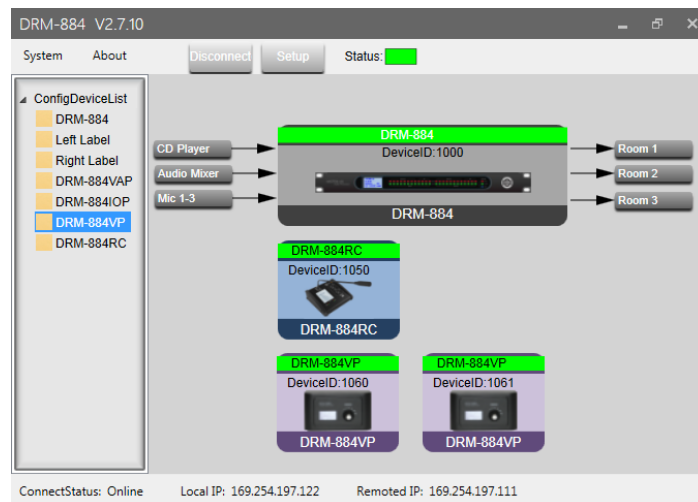

Fig. 14 System Configuration (Daisy Chain Network Mode)
In the "Daisy Chain Network Mode", the constellation of the devices used can be shown. To do this, drag the names of the devices used from the "Config Device List" and drop them in the area on the right (fig. 14). The device is shown as a block which can be placed as desired by means of the mouse. The block contains the device name, the device ID, the type name of the device and a picture. The device name is identical to the type name at first, but it can be changed individually.
- 4) In the window with the device constellation displayed (fig. 14), click "Connect".
After starting the program in the “Star Network Mode” or after double-clicking the block of DRM-884 in the view of the device constellation in the “Daisy Chain Mode” (fig. 14), the settings of a DRM-884 connected will be loaded to the computer and shown in the view “Input DSP Channel”. To change the view, click the buttons at the top. A change of settings on the screen will directly affect signal processing of DRM-884.